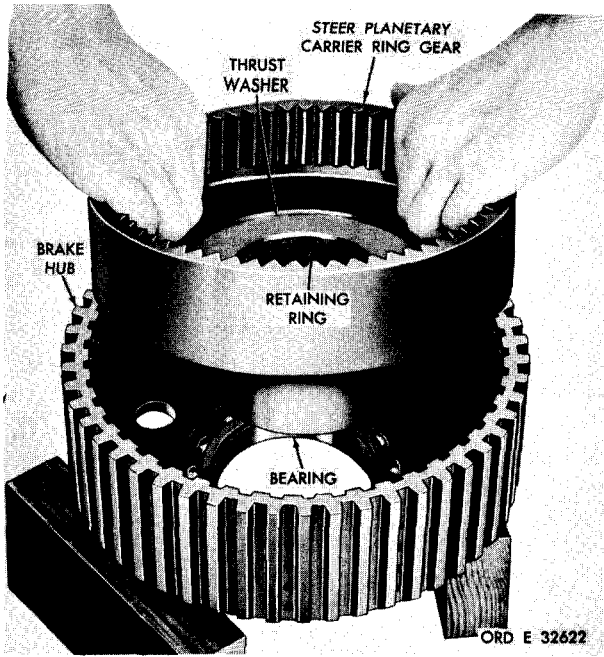

Figure 203. Removing (or installing) steer planetary carrier ring gear assembly
c. Remove the steer planetary ring gear from the brake hub (fig. 203).
d. Remove the thrust washer from the ring gear assembly (fig. 203).
e. Remove the retaining ring from the ring gear assembly (fig. 203).
f. Press or drive the bearing out of the brake hub (fig. 203).
l. Install the bearing in the brake hub (fig. 203). Press in the bearing until it bottoms.
m. Install the thrust washer in the ring gear (fig. 203).
n. Install the internal-snap ring in the ring gear (fig. 203).
o. Install the steer planetary carrier ring gear in the brake hub (fig. 203).